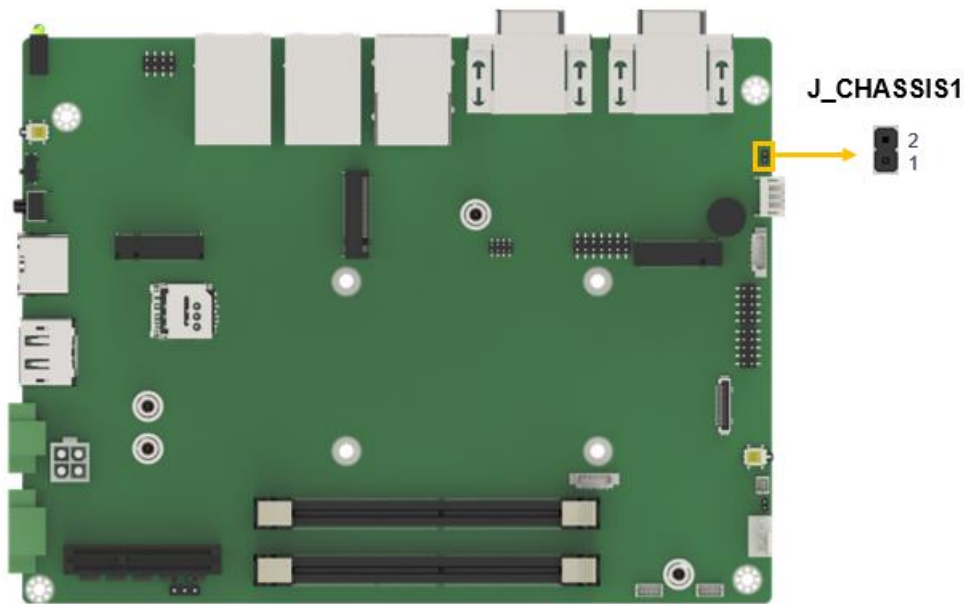

Figure 4-19: Chassis Intrusion Connector Location
- CN Location:** See Figure 4-19